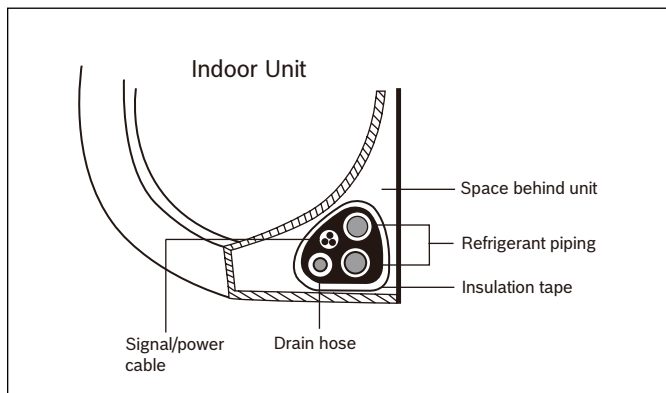

Figure 18
1. Bundle the drain hose, refrigerant pipes, and signal/power cable according to Figure 18.
3. Using insulation tape, wrap the signal/power wire, refrigerant pipes, and drain hose tightly together. Double-check that all items are bundled in accordance with Figure 18.